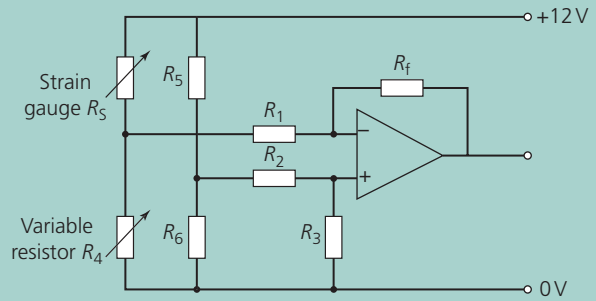

Figure A3 A strain gauge in a Wheatstone bridge network connected to an operational amplifier.
Figure A3 shows a Wheatstone bridge connected to an op-amp. If the difference in potential between X and Y is applied across the inverting and non-inverting terminals of the op-amp, this difference, and hence the change in resistance of  $R_S$ , can be amplified.
- A4 a. In what type of configuration is the op-amp in the circuit of Figure A3?